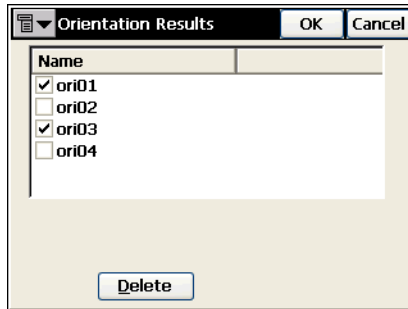

Figure 6-46. Delete Orientation Points
-  : opens the *Orientation Results* screen to delete the selected orientation points (Figure 6-46).